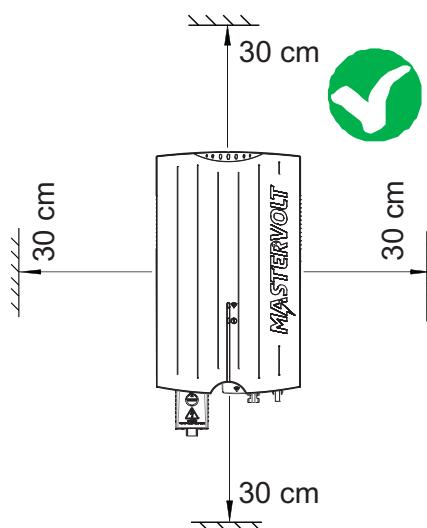

Figure 4-4
- No objects must be located within a distance of 30 cm around the Soladin (Figure 4-4)